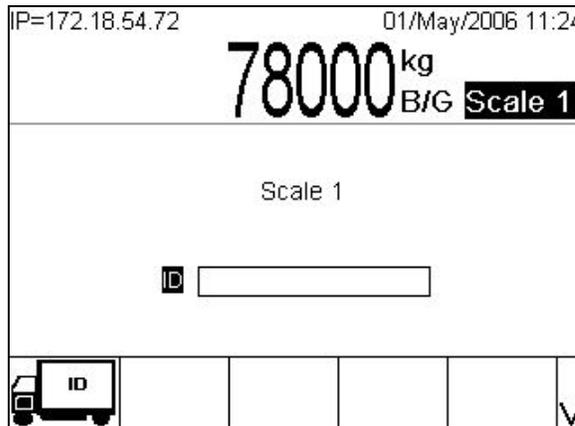

Figure 5-1: Vehicle ID Mode, Initial Screen
To start a Vehicle ID mode transaction, a vehicle identifier must be entered in the ID field (Figure 5-1). This can be done in either of two ways:
- If **Traffic Control** is disabled, ESCAPE and OK function in the same way, returning the view to the initial screen (Figure 5-1), where the transaction can be re-started.
- If **Traffic Control** is enabled, pressing OK releases the vehicle currently on the scale and abandons the transaction. The view returns to the initial screen (Figure 5-1). Pressing ESCAPE returns to the initial screen without releasing the vehicle from the scale; the transaction can be re-started.
To record the transaction, press OK. If the scale is not in motion, a prompt reading "Saving Transaction..." will appear briefly, and the screen will revert to the initial Vehicle ID screen shown in Figure 5-1. If the scale is in motion, an error message will display – "Print Failed, Scale in Motion". Pressing ENTER closes the message and displays a prompt "Clear Scale?" Select either ESCAPE  to return to the